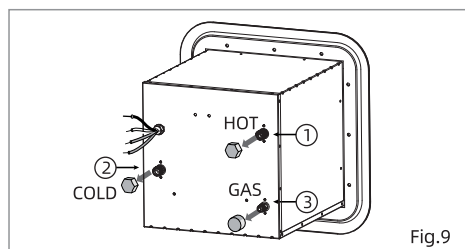

Fig.9
2. Remove protective caps for COLD, HOT water connector and GAS connector from back side. (Fig.9)